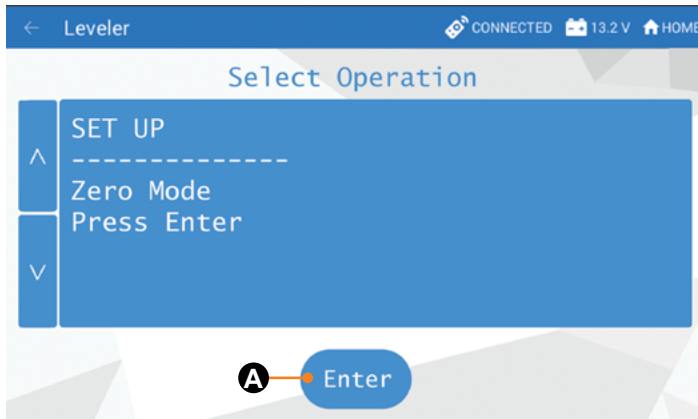

Fig.51
3. The screen will show "SET UP: Zero Mode Press Enter" (**Fig.51**).